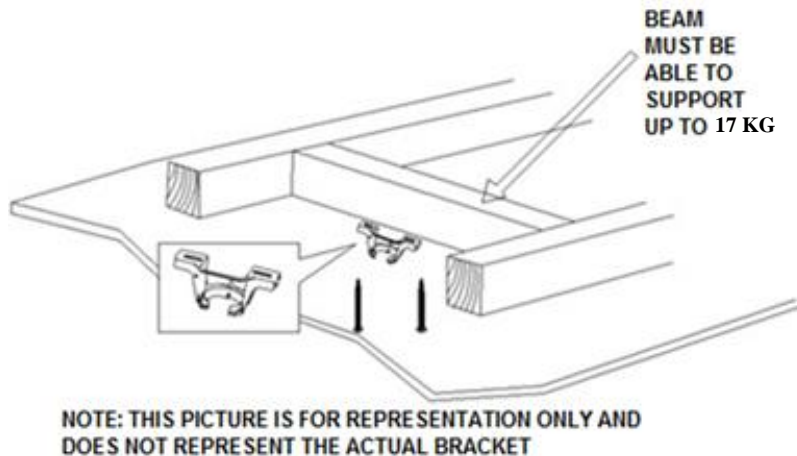

Fig. 2
- Install the hanging bracket to the ceiling joist or structure that is capable of carrying a load of at least 17 kg, with two long screws provided. Ensure at least 30mm of the screw is threaded into the support. (Fig. 2)